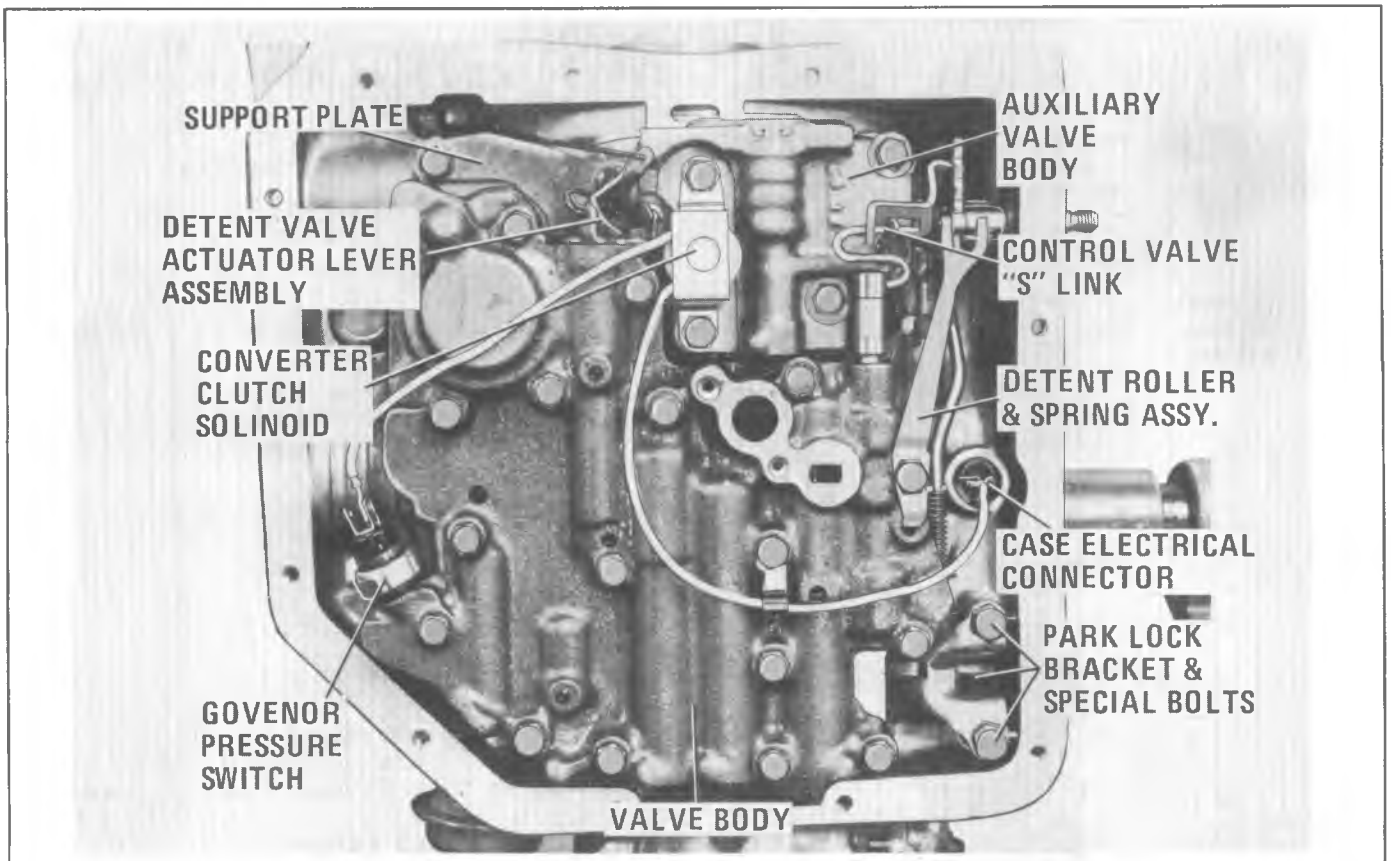

Figure 350C-35A Valve Body and Related Components
5. Remove intermediate overrun brake band. See Figure 350C-49.
1. Remove direct and forward clutch assemblies from case. See Figure 350C-50.
2. Remove input ring gear. See Figure 350C-51.